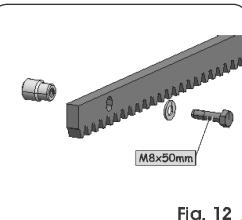
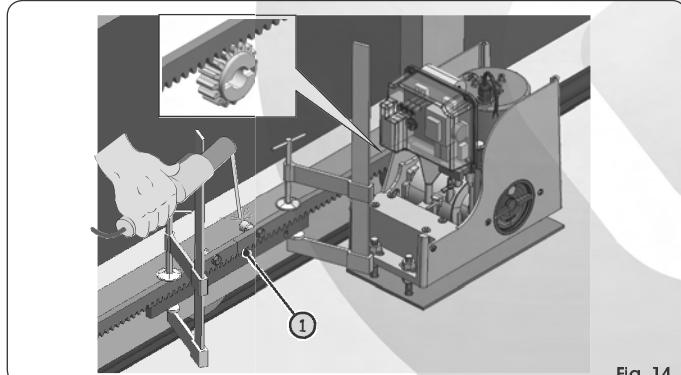

Fig. 12
Fig. 14
- Fit another rack element next to the previous one, using a piece of rack, as shown in Fig.14 ref. ①, to synchronise the teeth of the two elements.
5.4.2. STEEL RACK TO BE SCREWED (FIG. 12)
- ① Manually move the leaf to its opening position.
- ② Rest the first section of rack on the pinion, positioning the spacer between the rack and the edge of the gate. Using a spirit level, check if the rack is horizontal and mark the perforation point with a felt-tipped pen.
- ③ Drill with a 6.5 mm diameter bit, and thread with an M8 male element. Screw the bolt.
- ④ Manually move the gate, checking if the rack is resting on the pinion and repeat the operations in point ③.
- ⑤ Fit another rack element next to the previous one, using a piece of rack, as shown in Fig. 14 ref. ①, to synchronise the teeth of the two elements.
- ⑥ Move the gate by hand and perform the securing operations as for the first element, carrying on like this until you have covered the gate completely.